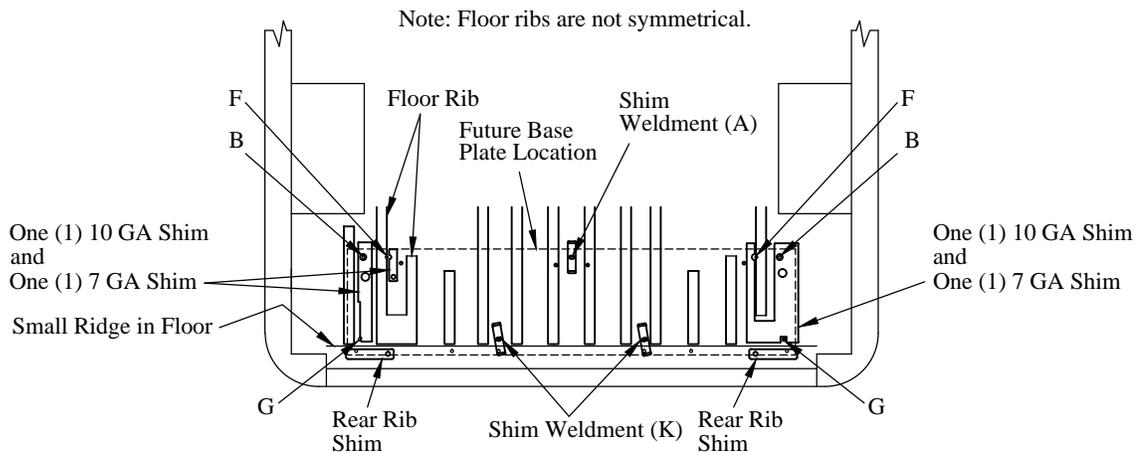

Figure 7: Rib shim locations (top view).
1. **Position** the supplied rib shims over the "B" and "F" locations (Figure 7).
2. **Position** the supplied shim weldments at the "A" and "K" locations (Figure 7).
3. **Position** a supplied 1/4" rear shims at each "G" location (Figure 7).